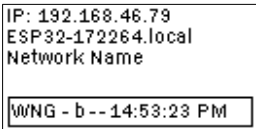

Fig 14. ENIAC Status screen
2. On the ENIAC, press the encoder in once to wake up the OLED screen, and then it will display the ENIAC status screen (Fig.14)